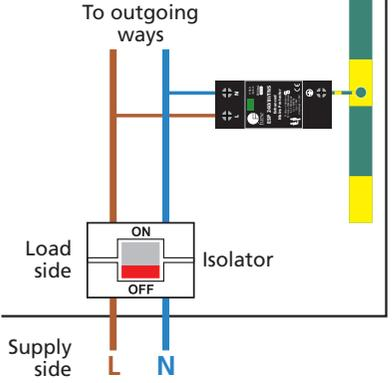
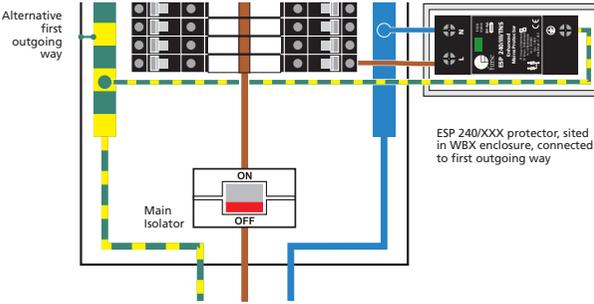

Figure 1:
Figure 2:
The ESP 240/XXX Protector will be installed at a main power distribution board, either inside it (Figure 1) or right next to it in an enclosure (Figure 2).
- (i) on the load side of the incoming isolator (Figure 1).